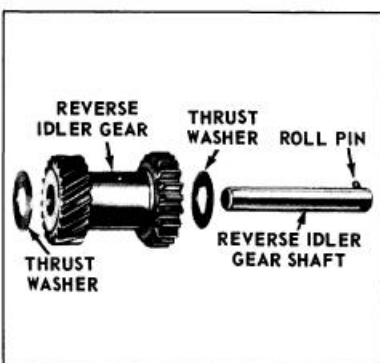

Figure 4-21—Exploded View of Reverse Idler Gear
1. Install reverse idler gear, with a thrust washer on each end in case. See Figure 4-21. Make